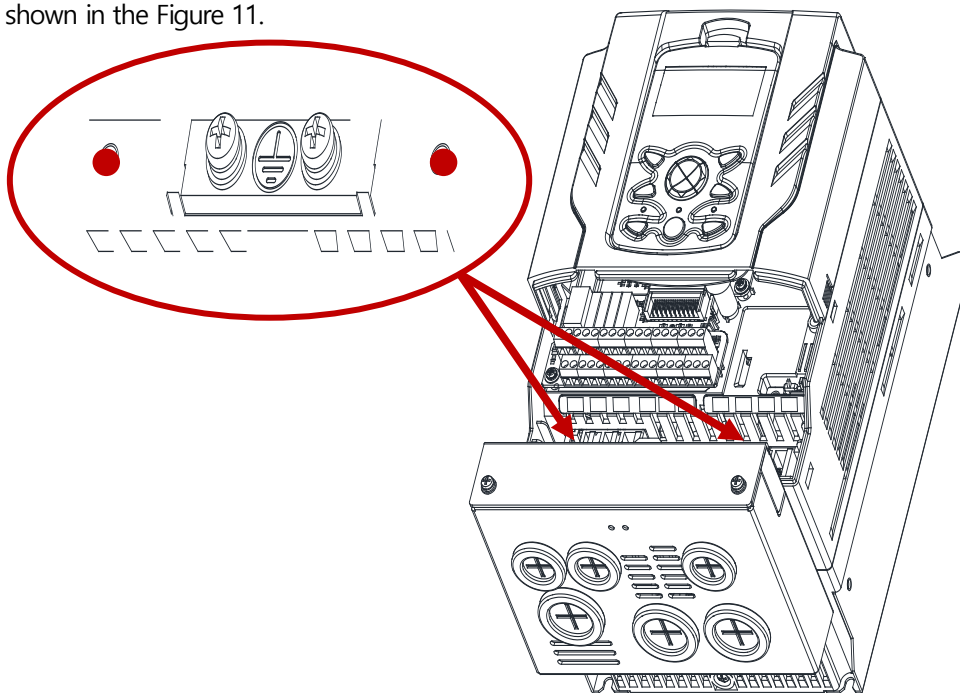

Figure 11. Install
- ② Fasten the Conduit Option to fit on the side of ground terminals of the product using the prescribed bolt as shown in the Figure 11.